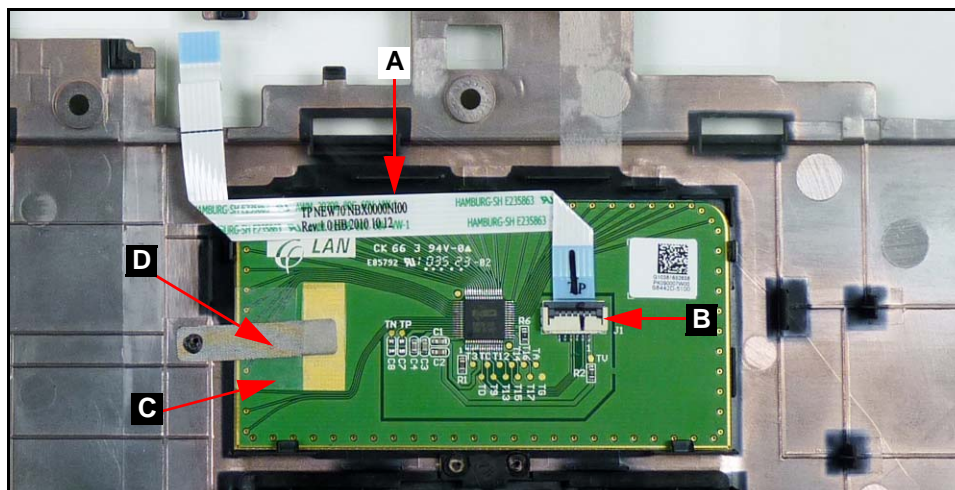

Figure 3-23. Touchpad
2. Remove touchpad FFC (A) from touchpad. (Figure 3-23)
3. Disconnect and remove touchpad FFC (A) from touchpad connector (B). (Figure 3-23)
4. Lift plastic cover (C) securing the grounding tape and remove grounding tape (D) from touchpad. (Figure 3-23)
2. Lift plastic cover (C) and install grounding tape (D) onto touchpad. (Figure 3-23)
Make sure the grounding tape is touching the connective section of the touchpad as shown in Figure 3-23.
3. Connect touchpad FFC (A) to touchpad connector (B). (Figure 3-23)
4. Install touchpad FFC to touchpad. (Figure 3-23)